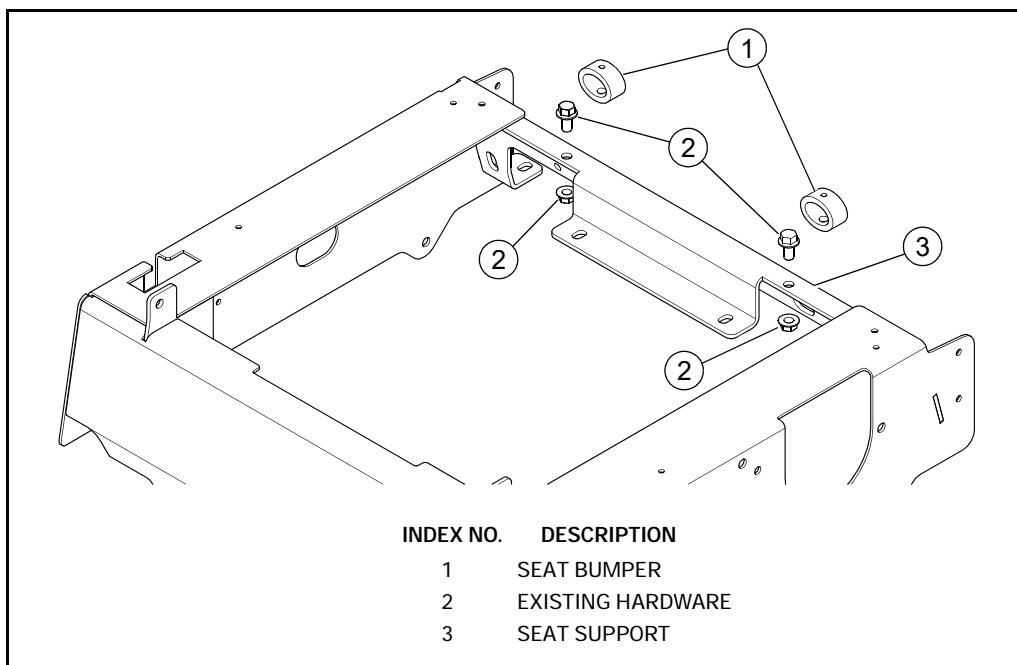

FIG. 2
5. Remove the existing seat bumpers and existing hardware. Discard these parts. FIG. 2